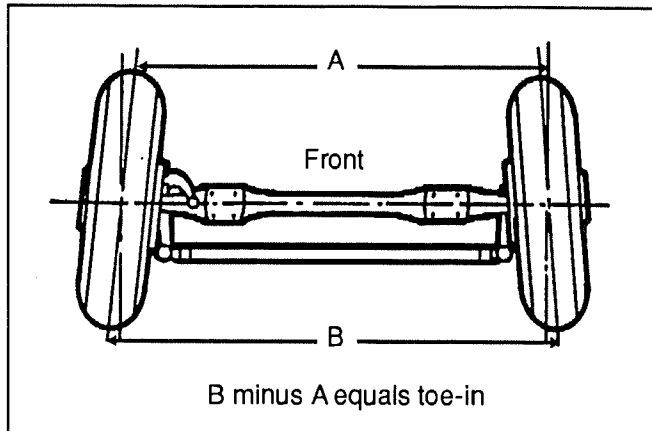

FIG. 5
9. Read toe-in (or toe-out) from scale (see figure 5).